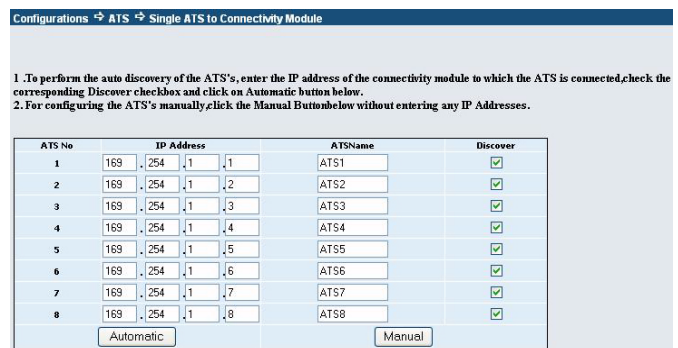

Figure 14: Single ATS screen
You must know the IP address of the Connectivity Module (CM) that corresponds with the ATS (and Power Manager, if present) in the network. The ATS Remote Annunciator has an *auto discovery* feature for a scenario in which one ATS is connected to one CM. The user has to input the IP address details of the CM to which the ATS is connected. After performing the auto discovery, the information about the discovered ATSs is displayed on the web interface. See Figure 14.
- To manually configure the ATSs click **Manual** on the Single ATS screen (Figure 14). See Figure 18.